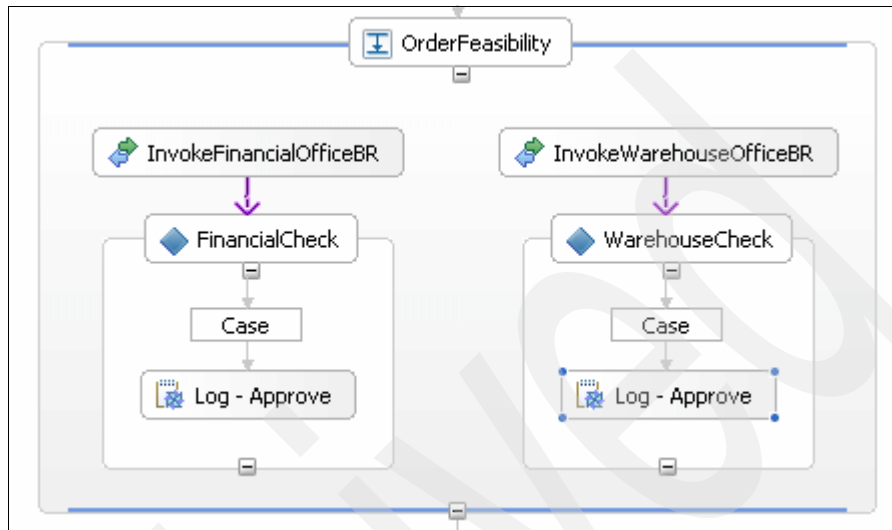

Figure 3-62 OrderFeasibility with two paths
10. Add a new snippet called Log - Approve. See Figure 3-62.